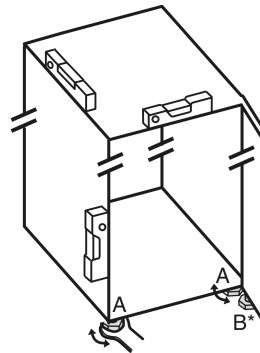

Fig. 2
- ▶ Unscrew the adjustable feet Fig. 2 (A) using the open-end wrench provided and a spirit level until the appliance is firmly aligned and level.
- ▶ Unscrew the adjustable foot Fig. 2 (B) at the swap bearing block using the open-end wrench provided until it rests on the floor.
- ▶ Turn the adjustable foot Fig. 2 (B) another 90°.